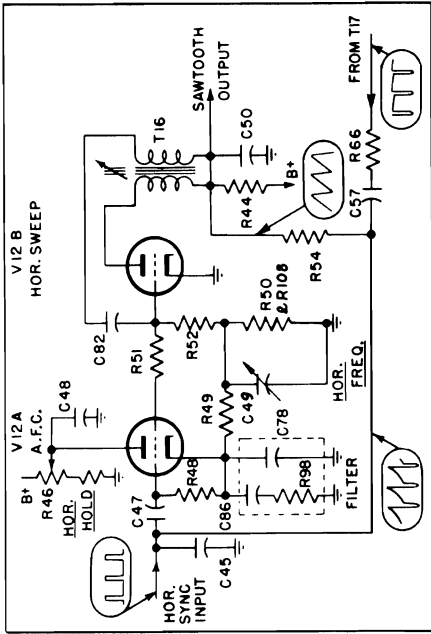
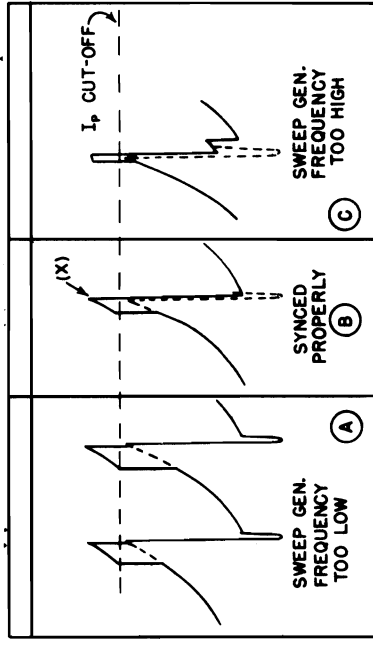

Fig. 6. Horizontal Sweep and A.F.C. Sync
Fig. 7. A.F.C. Waveforms
5. HORIZONTAL SWEEP GENERATOR AND AFC SYNC (SEE FIGURE 6)—The horizontal sawtooth generator makes use of one section of a Type 6SN7GT tube, V12B, connected in a blocking oscillator circuit. Instead of its frequency being controlled directly by the horizontal sync pulses, it is controlled by a d-c voltage on its grid, which is the resultant of the phase difference between the incoming sync signal and a voltage wave derived from the output of the sweep generator. The resultant d-c voltage produced by the tube V12A is called an automatic frequency control (AFC) voltage.
The tube V12A obtains its operating bias through its connection to the grid circuit of the blocking oscillator tube, V12B, through resistor, R51. The blocking oscillator produces a large negative bias in its grid circuit during its normal operating cycle. When the horizontal sync pulses or the combined output voltage (shown at lower left of Figure 6) are impressed separately on the grid of tube V12A, they do not have sufficient positive amplitude to cause appreciable plate current flow in tube V12A. However, if they are combined and phased properly as shown in Figure 7A, 7B, or 7C, their composite amplitude is sufficient to cause plate current to flow during that portion of the cycle where the waveform is above the dash line axis in Figure 7. During the time that conduction takes place, the capacitors C86 and C78 become charged positive in respect to ground, the magnitude of the charge and the resultant voltage thereon, being dependent upon the duration of the flow of plate current in tube V12A.
Referring to Figure 7, the (B) curve shows a sync pulse phased so that about 50 per cent of the pulse width is riding on top of the integrated sawtooth, while the remainder of the pulse after point (x) falls down into the trough, making the conducting portion have a width which is an average between curves represented by (A) and (C). If each successive sync pulse falls in the same phase relation as shown in curve (B), the Horizontal Hold control which controls the amount of current flow through V12A is set so that this phase relation does not change. This would cause the sweep generator V12B to be running at the same frequency as that of the transmitted signal. Under this condition, if the sweep generator tends to run slower than the incoming sync signal, the conduction period will be made longer through tube V12A because the pulse will move forward in relation to the integrated sawtooth wave with a result as shown in Figure 7 (A). It will be noted that the conduction pulse is of greater duration (wider) than in curve (B). Therefore, tube V12A will conduct for a greater period of time, thus raising the positive potential across R50. This greater conduction period causes the sweep generator to speed up until it attains the condition in (B). Likewise, if the sweep generator is operating at too high a frequency, the pulse will advance along the integrated sawtooth wave until a large portion of it falls down into the trough of the waveform, as shown in Figure 7 (C), with the resultant shortening (narrowing) of the conducting pulse. This causes the frequency of the sweep generator to be reduced until the condition in Figure 7 (B) is again restored.